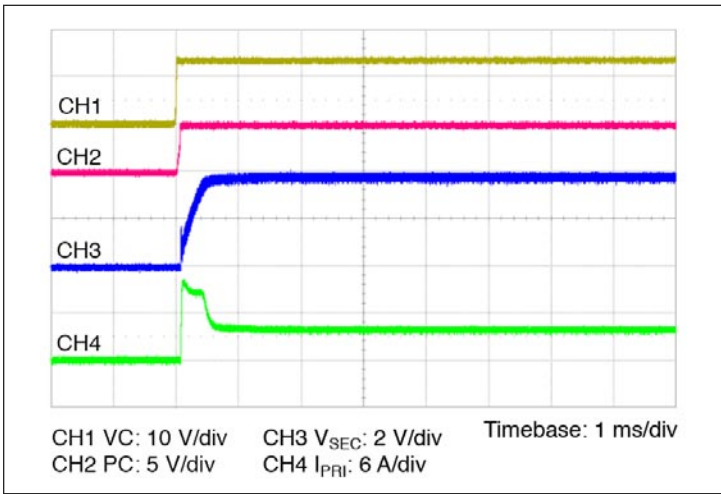

Figure 11 — Start up from application of VC;
- Stand-alone operation (VC applied after V_{PRI}): In this case the VTM secondary will begin to rise upon the application of the VC voltage (See Figure 11). The Adaptive Soft Start Circuit (See Section 11) may vary the secondary voltage rate of rise in order to limit the inrush current to its maximum level. When starting into high capacitance, or a short, the secondary current will be limited for a maximum of 1200 µsec. After this period, the Adaptive Soft Start Circuit will time out and the VTM module may shut down. No restart will be attempted until VC is re-applied or PC is toggled. The maximum secondary capacitance is limited to 9100 µF in this mode of operation to ensure a successful start.